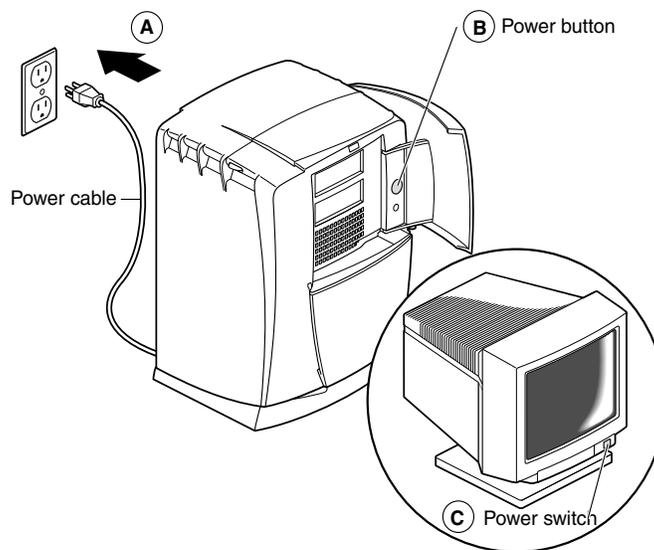

Figure 15 Powering On the Octane Workstation
1. Plug the power cable (see A in Figure 15) into an electrical outlet.
2. Press the power button (B) on the front of your workstation.
3. Press the monitor power switch (C) to power off your monitor.